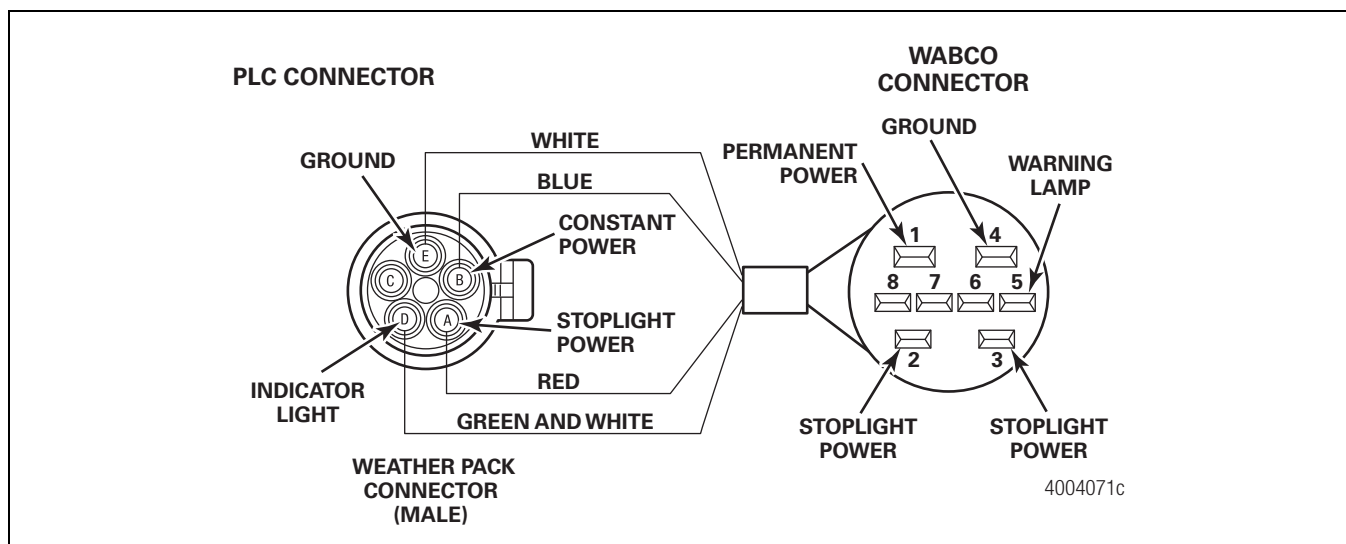

Figure 12
**NOTE:** If you are routing this cable to a junction box, or if it is necessary to cut the cable, please contact the Meritor Customer Service Center at 866-OnTrac1 (668-7221) for assistance. Refer to the pinout information in Figure 12 for additional cable information.
7. Plug the five-pin Weather Pack connector into the ABS dropout of the mating receptacle on the main trailer harness. Figure 12.